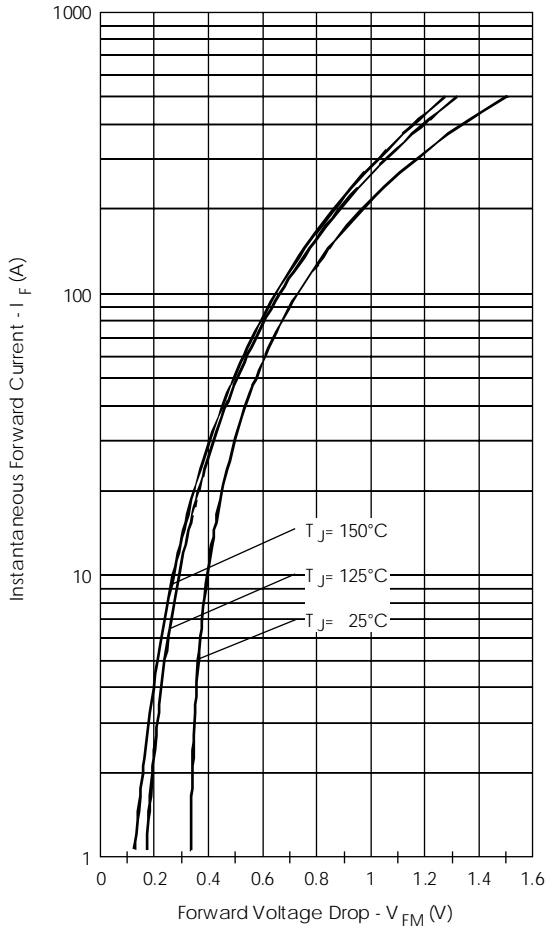

Fig. 1 - Max. Forward Voltage Drop Characteristics (PerLeg)
| V_{FM} Max. Forward Voltage Drop (Per Leg) * See Fig. 1 (1) | 0.64 | V | @ 75A |